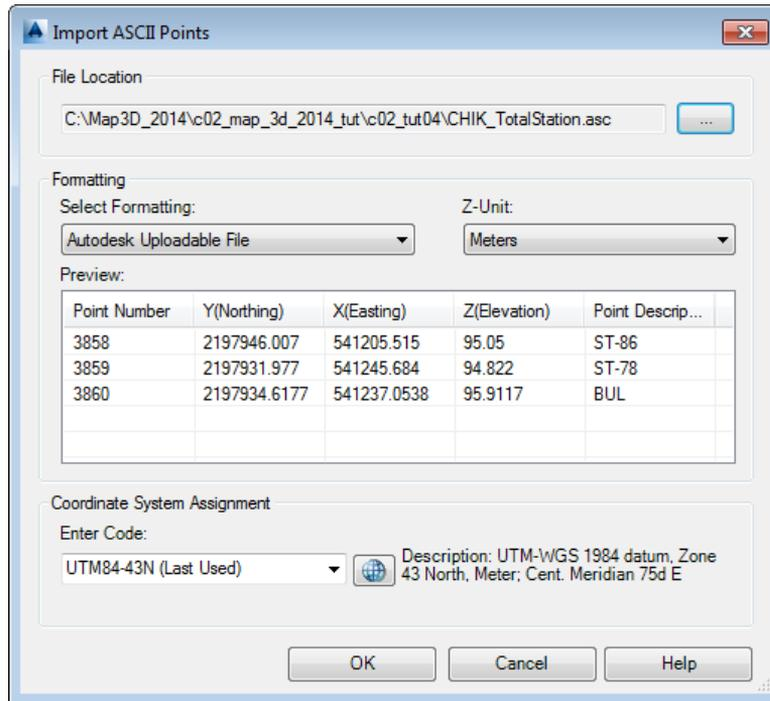

Figure 2-34 The *Import ASCII Points* dialog box displaying the preview of the selected data
- Next, choose the **OK** button; the **Import ASCII File** dialog box is closed. Notice that the path of the selected file is displayed in the **File Location** edit box of the **Import ASCII Points** dialog box. Also, the preview of the selected data is displayed in the **Preview** area, as shown in Figure 2-34.